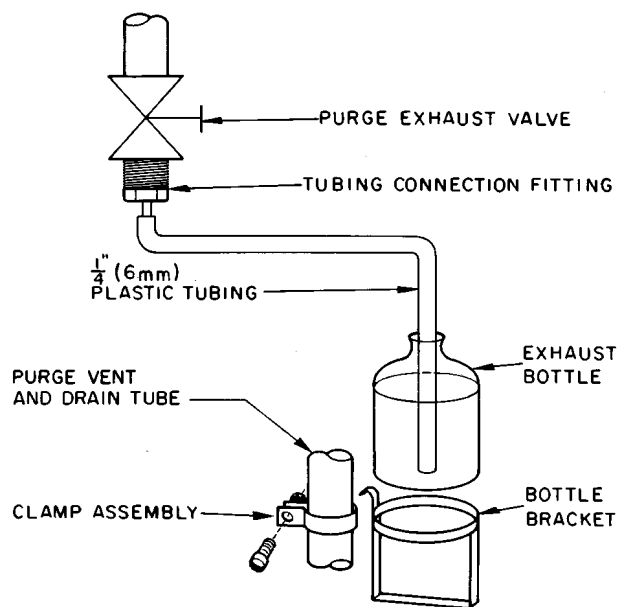

Fig. 25 — Purge Exhaust Assembly
Purge Manual Exhaust Procedure (Fig. 25) —
7. Return purge to normal operation. Replace exhaust bottle (Fig. 25). Open solution return valve (Fig. 8 and 9).